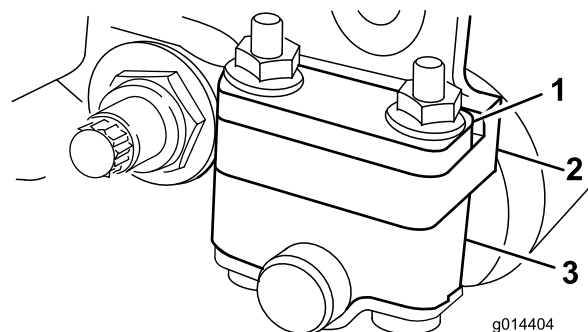
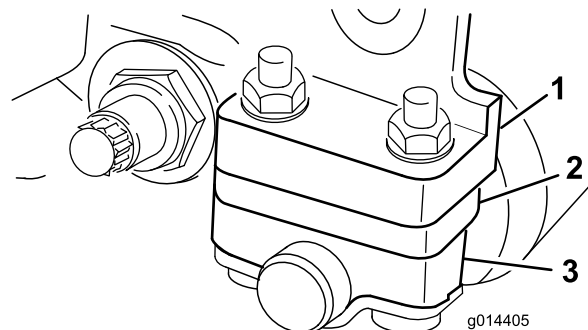

Figure 12
Figure 13
1. Adjust the rear roller brackets (Figure 12 or Figure 13) to the low or high position depending on the desired height of cut range.
Position the spacer above the sideplate mounting flange (factory setting) when height of cut settings range from 1/16 to 1/4 inch (Figure 12).
Position the spacer below the sideplate mounting flange when height of cut settings range from 1/8" to 1" (Figure 13).